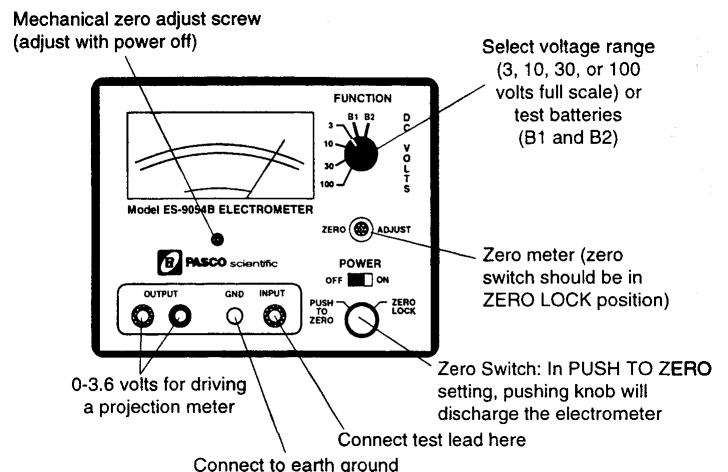

Figure 9-3. Electrometer front panel.
- An *electrometer* is a kind of voltmeter. Compared to ordinary voltmeters, it has a particularly high input impedance of $10^{14} \Omega$. The concept of impedance will be developed later in this course; for now, it is enough to know that this instrument’s high input impedance allows a measurement without disturbing the charge of the object that you measure. The front panel of this instrument is shown in Figure 9-3.